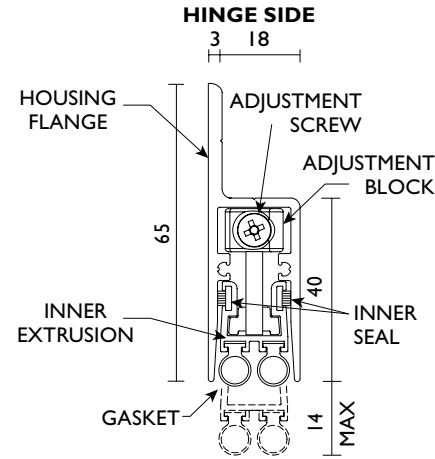

FIG. 4
STEP 7 With door closed, position RPI26Si hard against hinge side stop and level with door bottom. Adjustment screw must be on hinge side. (FIG.2 & FIG.4)